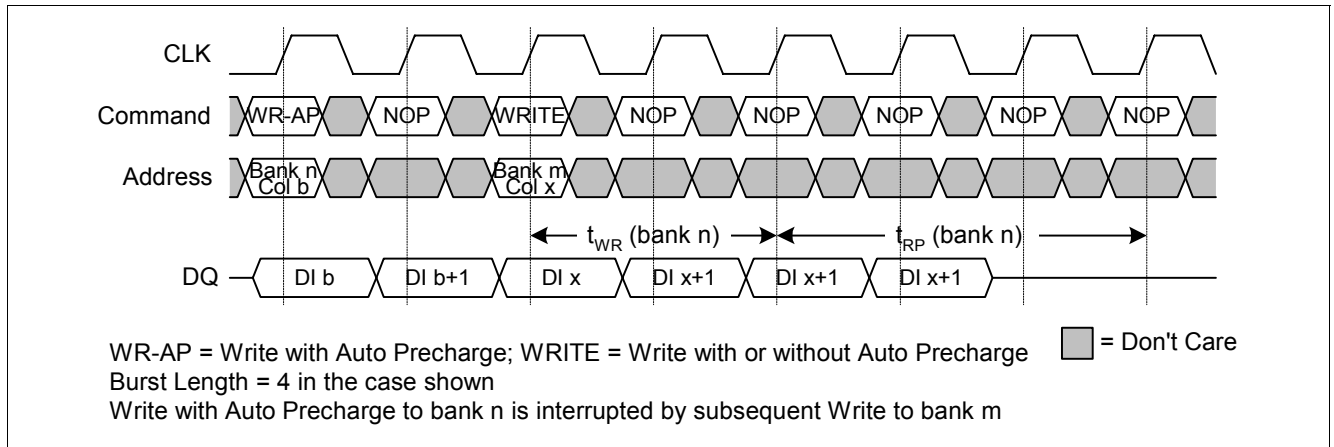

**Figure 38 READ with Auto Precharge Interrupted by WRITE**
**Figure 38** shows a READ with Auto Precharge to bank n, interrupted by a WRITE (with or without Auto Precharge) to bank m. The precharge to bank n will begin when the WRITE to bank m is registered. DQM should be pulled HIGH two clock cycles prior to the WRITE to prevent bus contention.